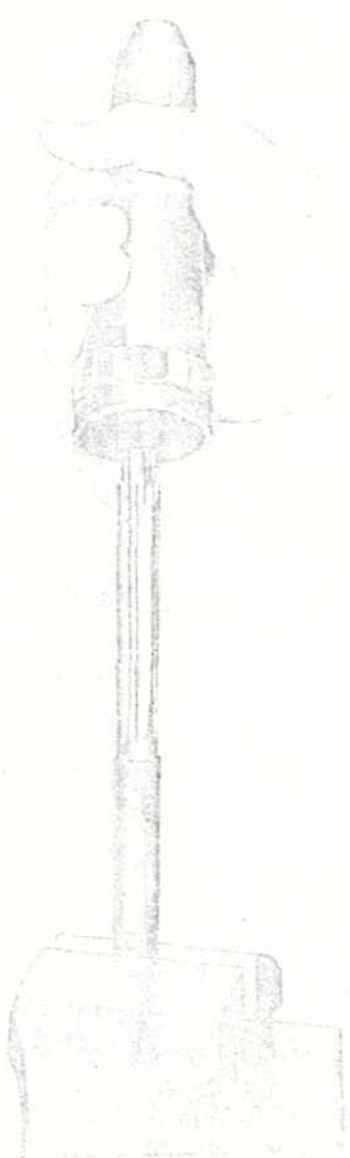

Fig. 11 - Reaming Injector Nut
- b. Using nut reamer #8070959, Fig. 11, clean carbon from inside diameter of the nut and spray tip seating surface.